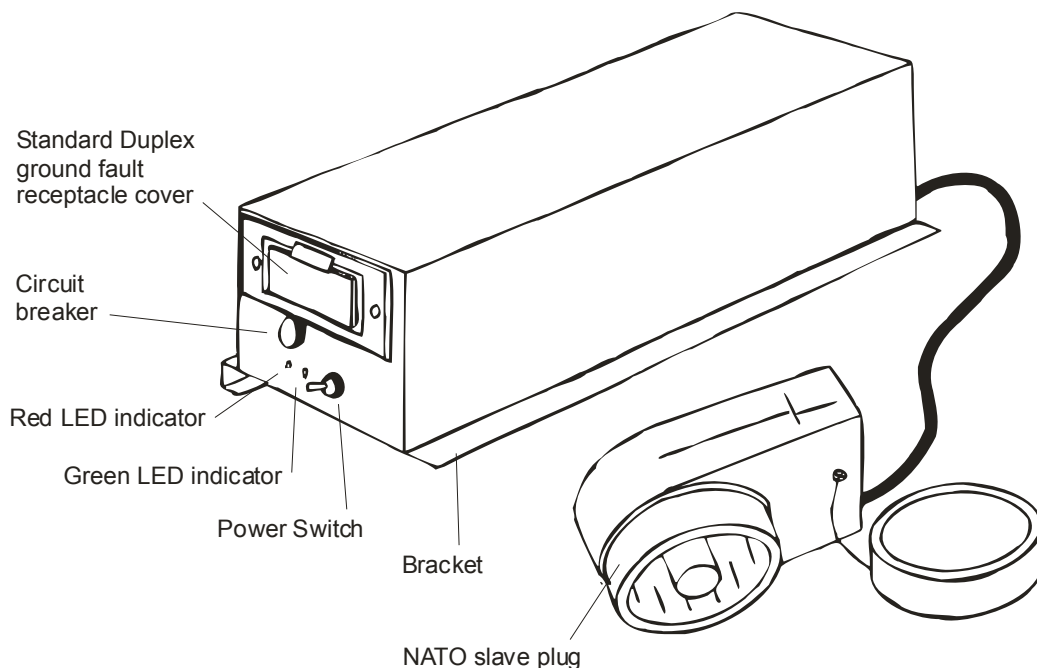

Figure 1-9. Inverter Assembly
1-2. INVERTER ASSEMBLY. Table 1-6 contains relevant electrical data; figure 1-9 shows the inverter assembly.
(1) Step 1. Fit the metal bracket with attached inverter assembly over the middle of the panel that runs behind the driver and passenger seats.
(2) Step 2. Plug in the cable to HMMWV 24 VDC NATO receptacle under the front of the passenger seat.
(3) Step 3. Plug in the cord from the TRH electrical control box to the inverter receptacle outlet to send power to the TRH. Flip on the switch located on the top of the inverter to allow flow of 120 VAC 60 HZ to the outlet on the receptacle as shown in figure 1-9. The green LED indicator will illuminate if current is flowing through the inverter.